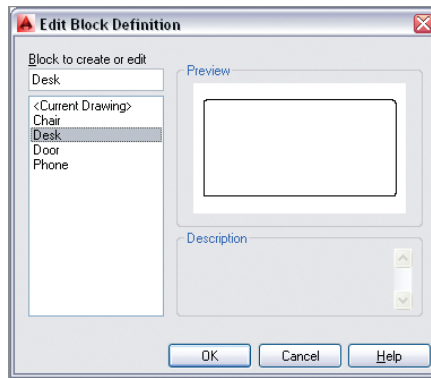

FIGURE 7.19 Selecting a block definition to edit
2. Type **BEDIT** (for Block Editor), and press Enter. Select Desk in the Edit Block Definition dialog box that appears (see Figure 7.19). Click OK.